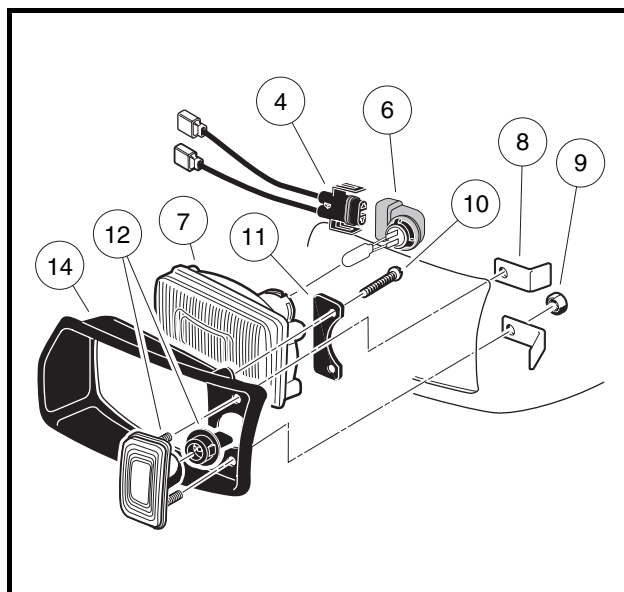

Figure 12b-15 Headlight Assembly
3. From the front of the vehicle, reach under the cowl and turn the wire harness/halogen bulb assembly (4 and 6) clockwise one-quarter turn (**Figure 12b-15, Page 12b-14**).
4. Remove the wire harness/halogen bulb assembly (4 and 6) from the headlight lens (7).
5. Lift the retaining tabs on the connector (4), and remove the halogen bulb assembly (6).
1. Connect the wire harness (4) to the halogen bulb assembly (6). The retaining tab should lock onto the halogen bulb assembly (**Figure 12b-15, Page 12b-14**).
2. From the front of vehicle, reach under the cowl and insert the wire harness/halogen bulb assembly (4 and 6), into the headlight lens (7).